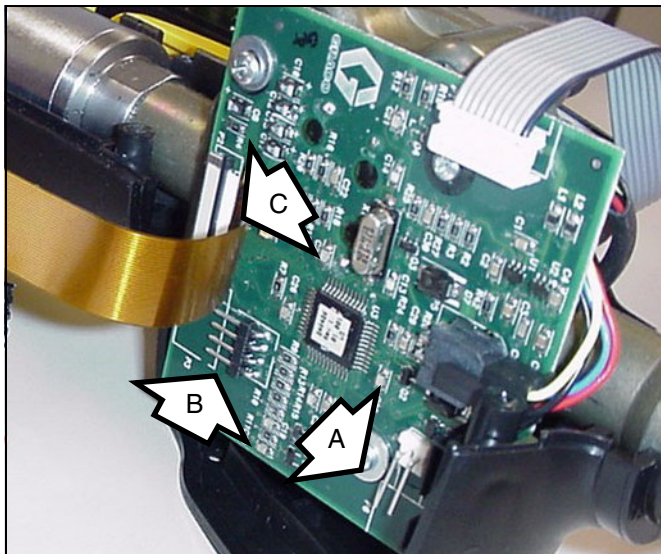
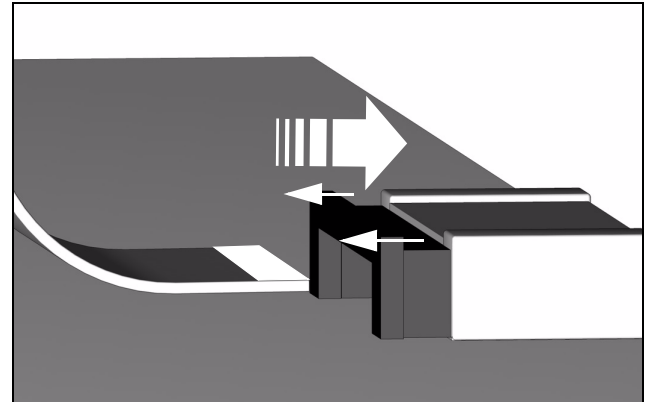

FIG. 27
FIG. 28
10. Disconnect the cables/wires (A, B, & C) that connect the bezel (31) to the circuit board (112). Discard the old bezel (31). See FIG. 27 and FIG. 28.
11. Reconnect the cables/wires (A, B, & C) from the new bezel (31) to the circuit board (112).
When reconnecting cable C to the circuit board (112), ensure that the cable is positioned with the white tab facing up and that the cable is straight before pushing in (closing) the clasp. See FIG. 28.